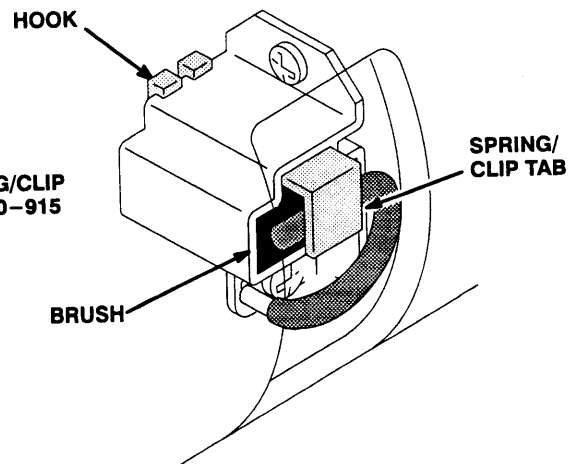

Fig 20-3
NOTE 1: Replace the brushes when they have worn to less than 1/2 in. Refer to STEP 1, Fig 20-3. Note that the brushes wear differently on each side of the motor, so check them both. Brush Repair Kit 820-926 is available.
7. Holding the spring/clip at a slight angle, slide the spring/clip into the brush holder and hook it over the end of the holder. See Fig 20-3. Pull on the spring/clip to be sure it stays in place. Be sure the brush lead is tucked under the spring/clip tab.